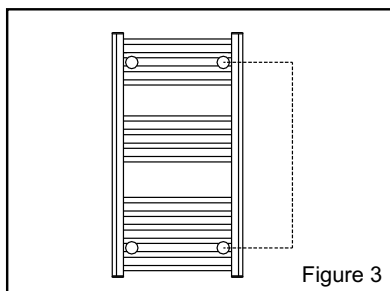

Figure 3
- 5** The mounting elements shall be fitted to the second uppermost and lowermost columns of the radiator (Figure 3) as to maintain a distance of approx. 400mm between them (Figure 4).
- 6** The connection of radiator to the installation shall be made from the bottom ends, using the inlet and return valves (Figure 3). The distance between the center line of radiator connection place and the wall should be min. 75 mm (Figure 7).